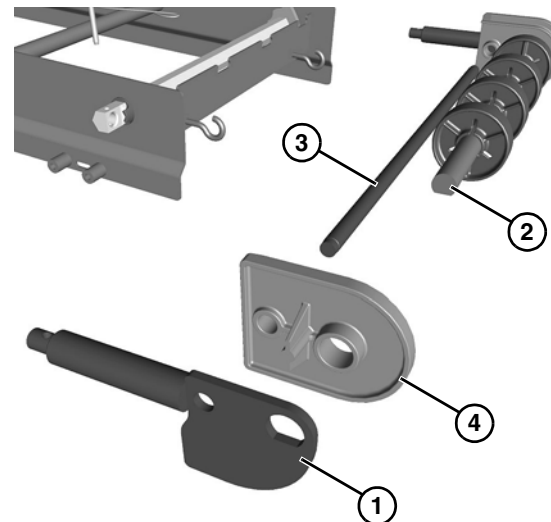

Figure 60
3. Remove the shaft assembly (Figure 60, item 1) from idler shaft (Figure 60, item 2) and pinch guard shaft (Figure 60, item 3).
4. Remove tracking plate (Figure 60, item 4) from idler shaft and pinch guard shaft.
5. Remove pinch guard shaft (Figure 60, item 2).